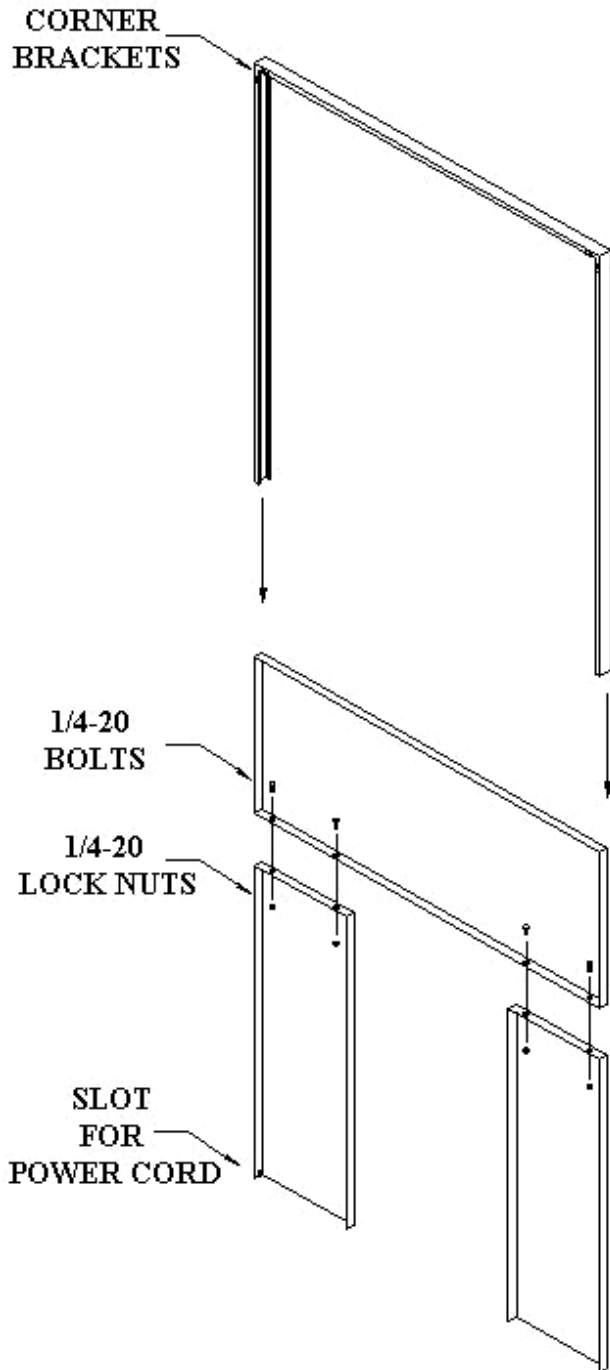

Figure 7
4. Take the Trim kit and slide it down over the edges of the trim kit as shown in Figure 7.